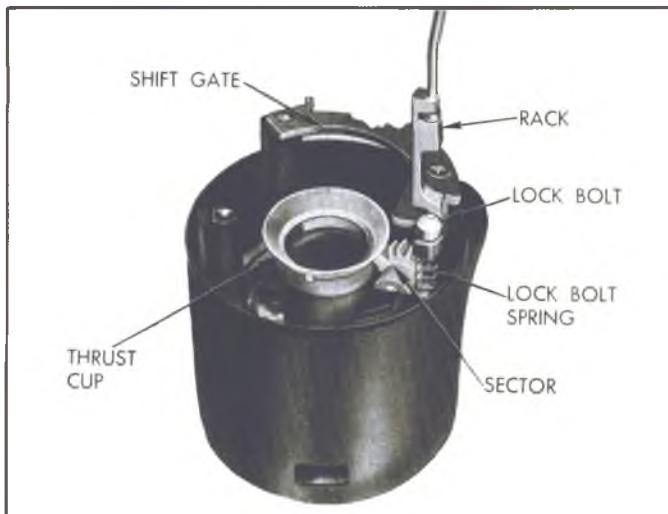

Fig. 67—Turn Signal Housing Assembly
7. Lift the ignition switch actuating rod and rack assembly, the rack preload spring and the shaft lock bolt and spring assembly out of the housing (fig. 67).
4. Assemble the locking bolt onto the crossover arm on the rack and insert the rack and lock bolt assembly into the housing from the bottom with the teeth up (toward hand-wheel) and toward the centerline of the column (fig. 67). Align the 1st tooth on the sector with the 1st tooth on the rack; if aligned properly, the block teeth will line up when the rack assembly is pushed all the way in.